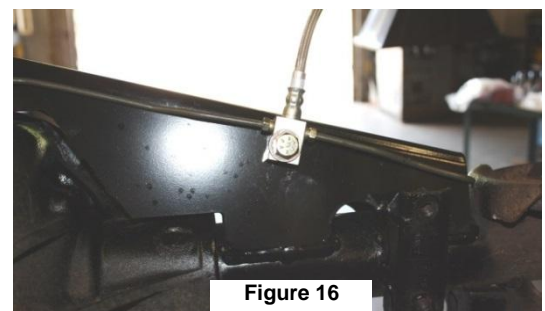

Figure 16
62. Mount rear brake hose to the front side of the truss (see figure 16).
63. Run new hard lines from brake T-fitting to wheel cylinders (see figure 16).